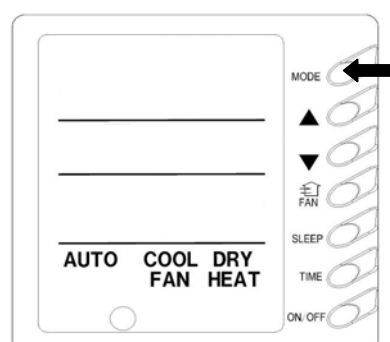

Fig. 7-6
7.2.5 Operational mode setting (Fig. 7-6)